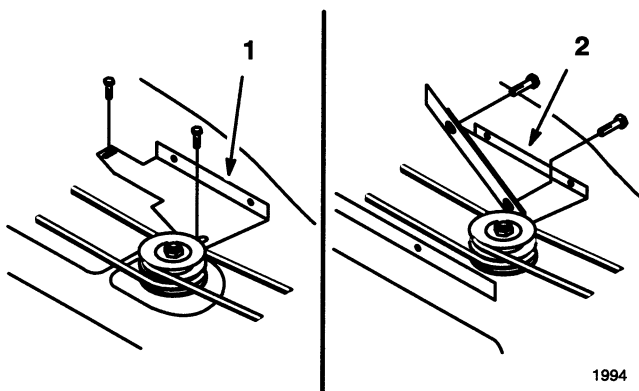

Figure 36
4. Remove belt cover bracket (Fig. 36).